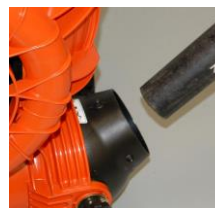

Fig. 5
*Using compressed air, or a backpack blower, you can loosen or free debris easily from the impeller and housing, which can cause wear and tear on the machine. You can manually remove debris by taking off the front housing. (See Fig. 5 and 6) **NOTE:** Always disconnect the sparkplug when servicing.